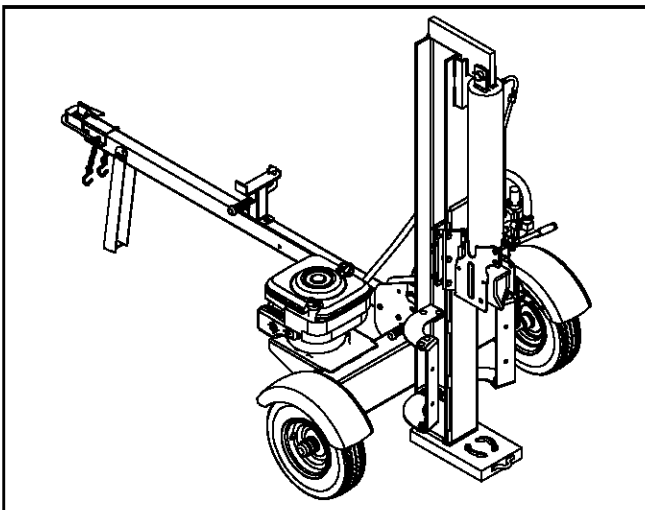

Figure 7
- To lock the beam in the vertical position, pull out on the vertical beam lock and pivot it to secure the beam. See Figure 7.